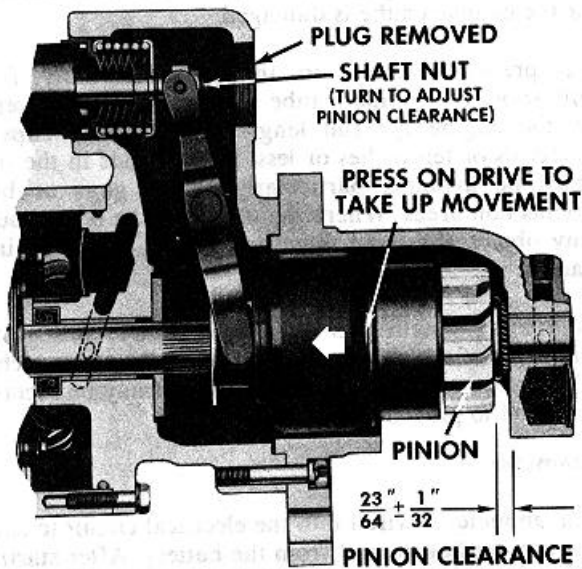

Fig. 8 - Measuring Pinion Clearance.
2. **Momentarily** flash a jumper lead from terminal G to terminal MTR. (Fig. 8). The drive will now shift into cranking position and remain so until the battery is disconnected.
4. Measure the distance between drive and housing (Fig. 8).
5. Adjust clearance by removing plug and turning shaft nut (Fig. 8).